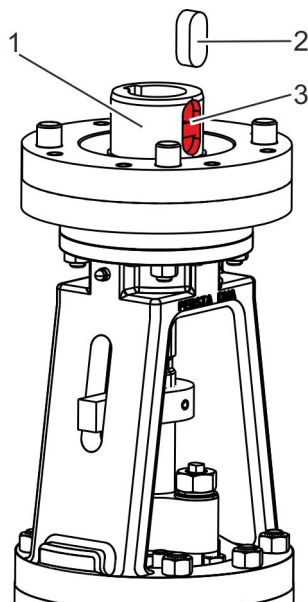

Fig. 26: Removing the feather key
4. ➔ Remove the feather key (Fig. 26/2) from the feather key groove (Fig. 26/3) of the hub (Fig. 26/1).